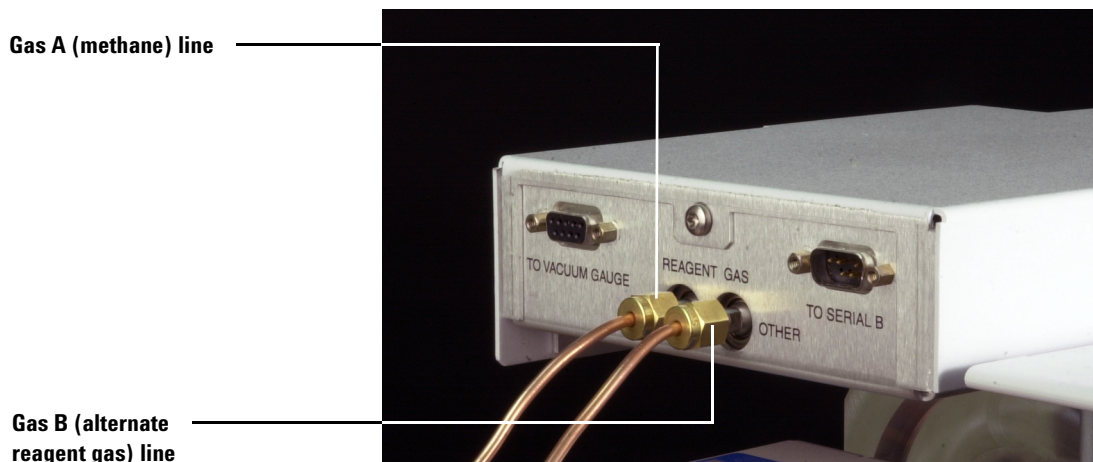

Figure 7 Connecting the methane line
- 8 Connect the other end of the tubing to the Gas A fitting on the flow module as shown in Figure 7.